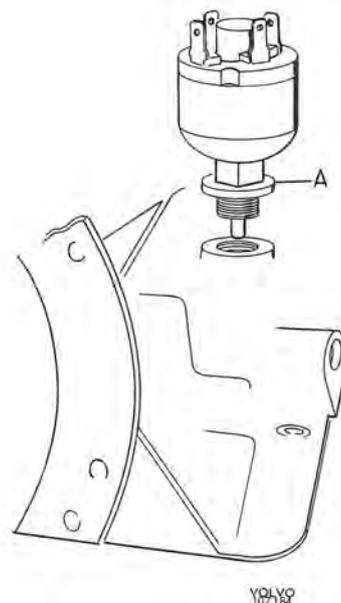

Fig. 4-74. Fitting starter inhibitor switch
2. Fit a new packing (A, Fig. 4-74) onto the contact. Screw in the contact and tighten it to a torque of 8—11 Nm (6—8 lbf ft) with spanner 2975. Connect up the electric cables.